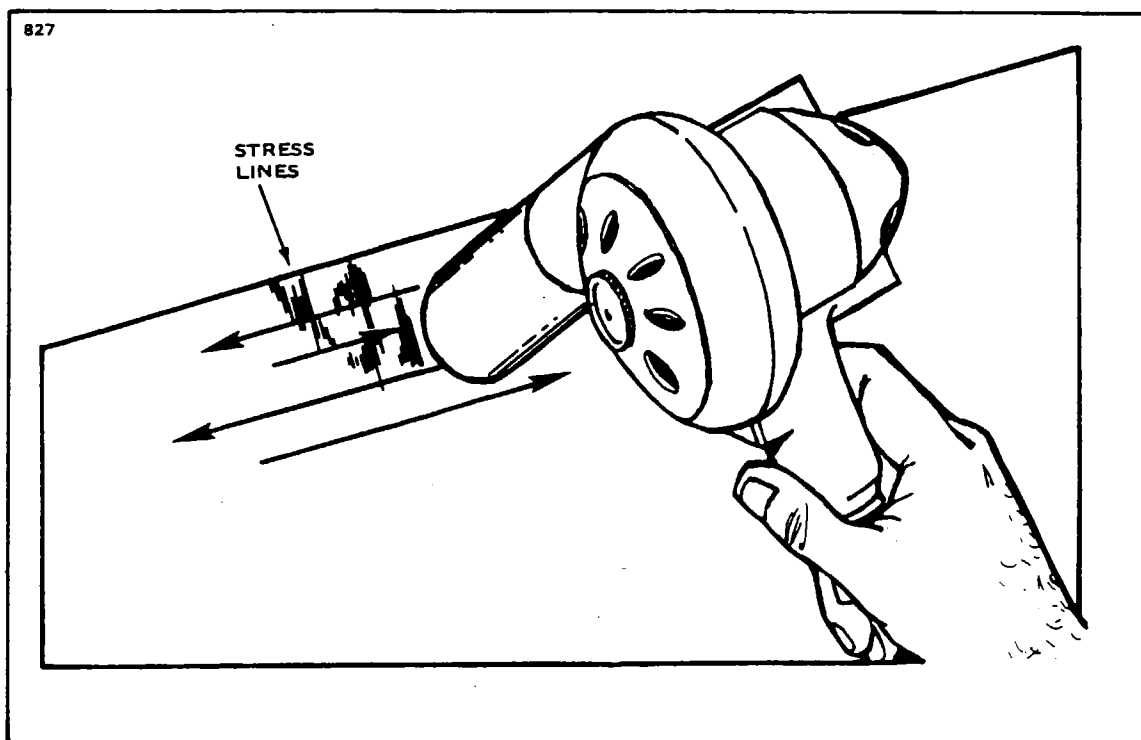

Figure 4-12. Repair of Stress Lines.
- f. Stress Lines: (Refer to Figure 4-12.)